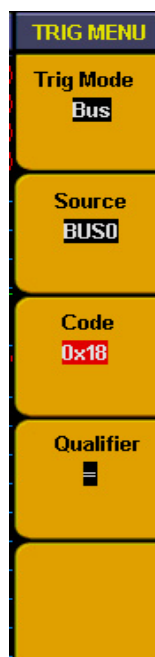

Fig.5-56: Bus trigger menu
2. **BUS trigger:** set BUS as trigger source and make data on BUS as the trigger condition to make trigger. BUS trigger menu refer to **Fig.5-56**